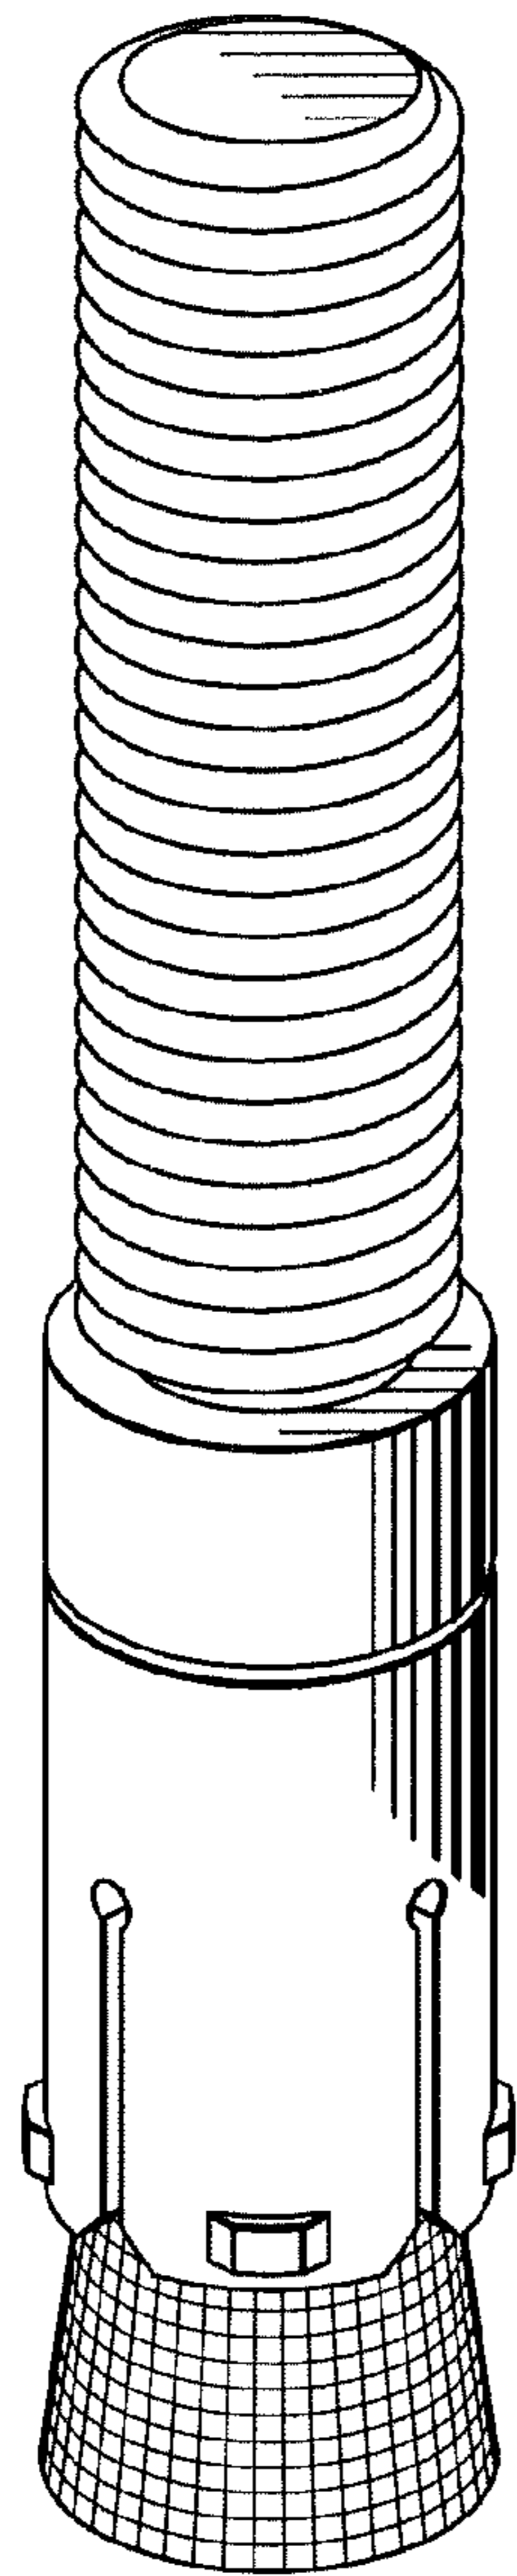

Fig. 9
- FIG. 9 is a top perspective view of the stud having a cross knurled wedge;